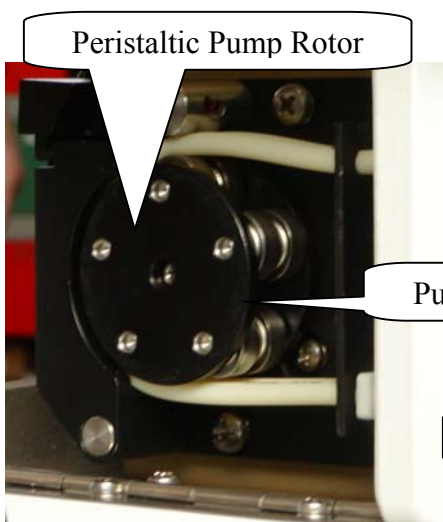

Fig. 85 P.Pump Rotor Cd.05-01512-00
2. Unhook the hinged guide by pushing its up side toward the left and up, as reported in Fig. 85.
6. Unscrew the four motor fastening screws and loosen the two motor pulley screws which hold the peristaltic pump rotor(Fig. 85).